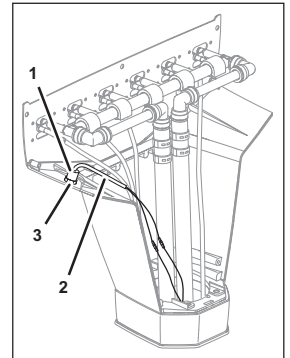

Fig. 48
1. Disconnect the electrical cable (Fig. 48/2) on the key switch (Fig. 48/1).
2. Remove the nut (Fig. 48/3).
3. Remove the key switch (Fig. 48/1)